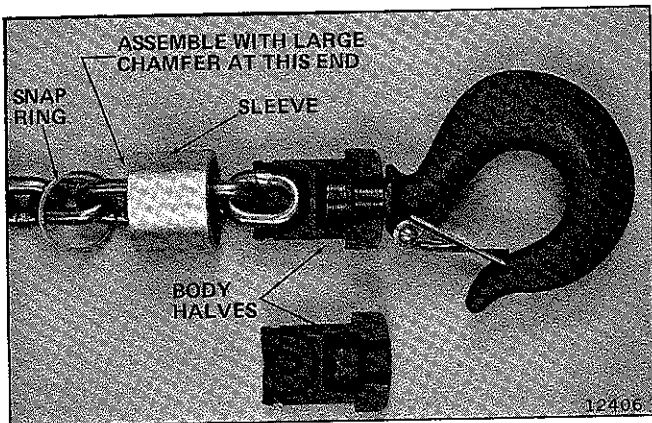

Figure 6-1. Lower Hook Connection
a. To remove hook from end of load chain, remove snap ring at top of sleeve, slide sleeve from body halves and separate parts. See Figure 6-1.
- On 3/4 and 1 ton models, pull approximately three feet of chain thru the hoist and attach to lower hook (Figure 6-1).